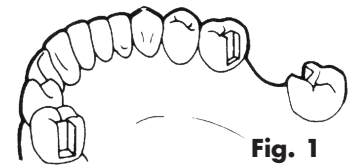

Fig. 1
2. Wax all abutments and cut recesses for the females (Fig. 1).